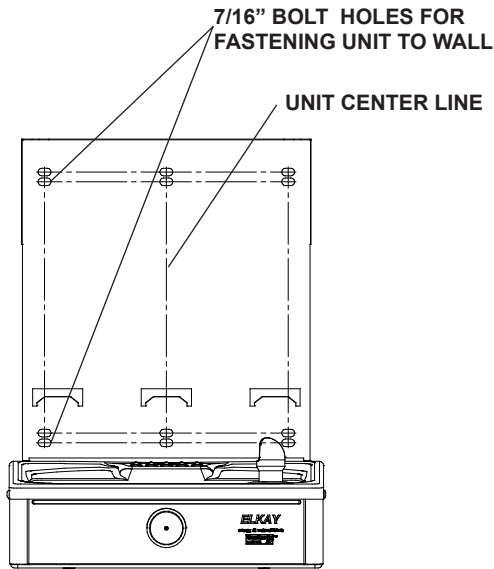

Fig 8
- 2) Remove wall mounting plate from Bottle Filler. Place wall plate against wall on top of basin. Center the wall plate side to side with the basin. Mark the six (6) mounting holes with a pencil (See Fig. 8).
- 4) Install wall mounting plate to wall using six (6) 7/16" obround mounting holes (mounting bolts not included) (See Fig. 8). Use appropriate fasteners for your wall type.